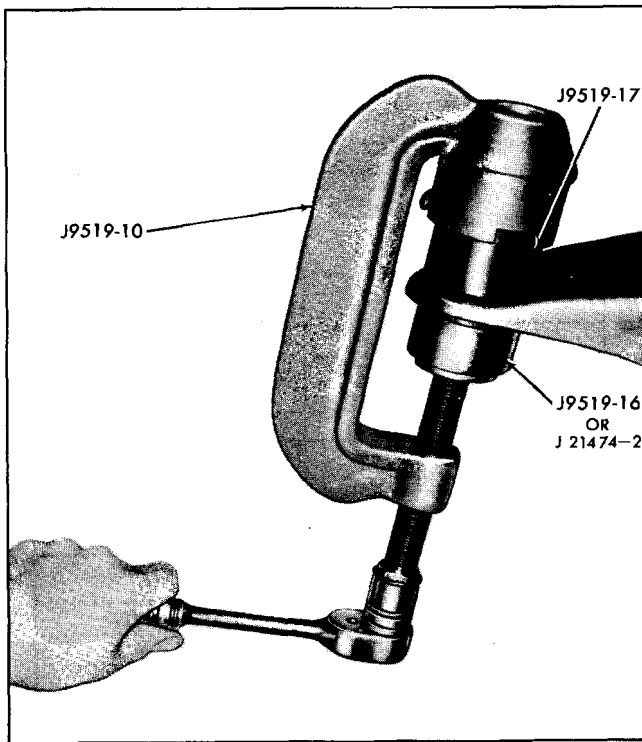

Fig. 3-33 Installing Lower Ball Joint
1. Start the replacement ball joint assembly into the control arm and arrange tools as shown in Fig. 3-33.